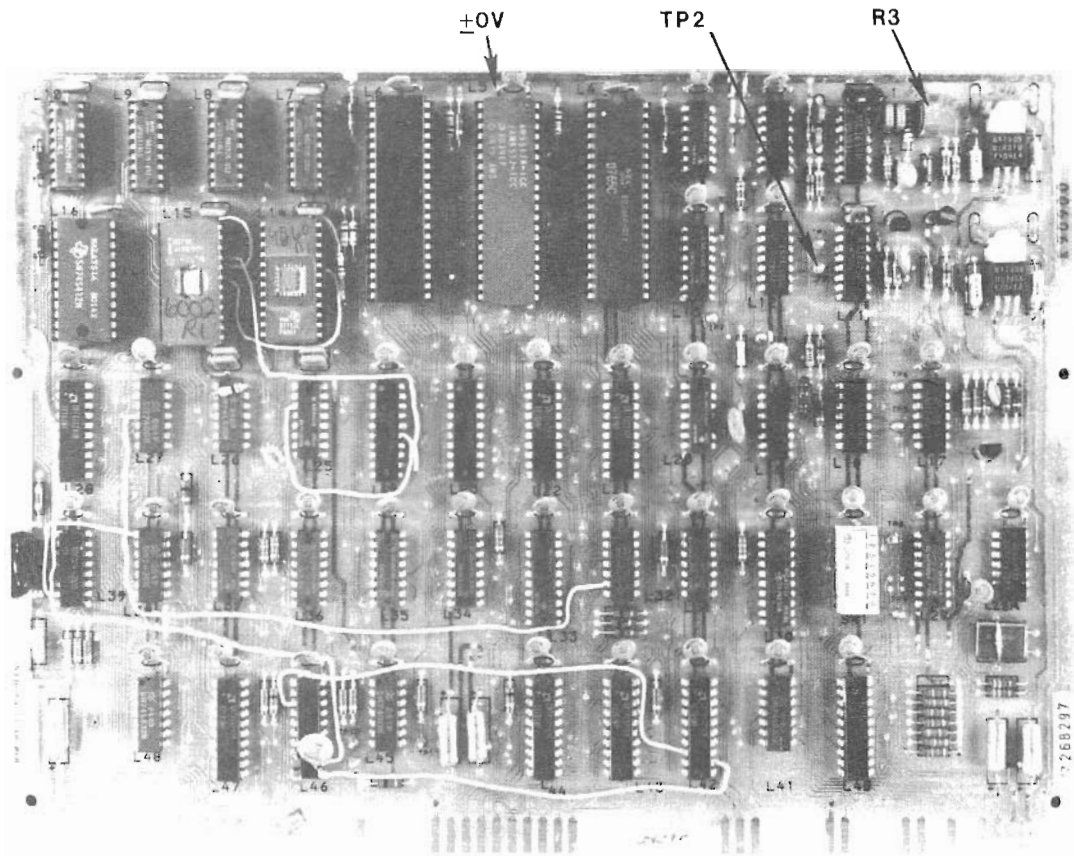

FIGURE 1 WL NO. 210-7890-A TEST POINT AND POTENTIOMETER
1. Connect the oscilloscope Channel 1 probe to TP2 (Test Point #2) on the 210-7890-A board (ref: FIGURE 1). IF 3 TEST PTS USE MIDDLE. ONLY 2 IN PICTURE
2. Connect the oscilloscope ground lead to $\pm 0V$ on the 210-7890-A board (ref: FIGURE 1).